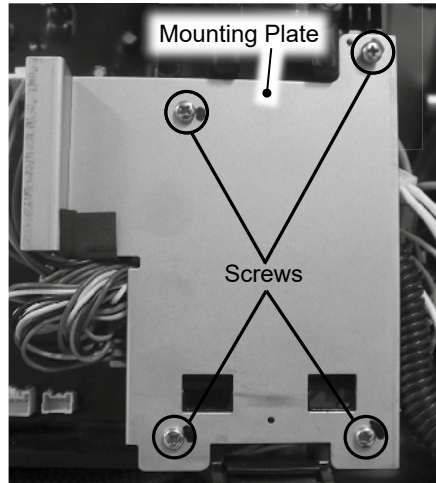

Figure 7 - Mounting plate screw removal.
- 16 Locate the four (4) screw securing the metal mounting plate. See Figure 7. Use a Phillips screwdriver to remove the screws. Place screws and mounting plate aside in a safe place for reinstallation.